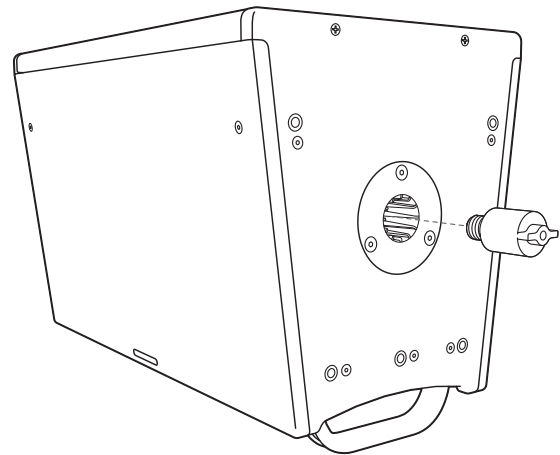

Figure 43: Converting ULTRA-X40/42 Cabinet to M8 size with Thread Reducer M20 to M8 (35 MM).
**NOTE:** Up to two ULTRA-X40 loudspeakers, oriented vertically, can be suspended with Meyer Sound eye bolts at a 5:1 safety factor. For this configuration, the top loudspeaker would have two eye bolts installed on its top and two eye bolts installed on its bottom (for connecting to the second loudspeaker), and the bottom of the upper loudspeaker requires the optional Thread Reducer M20 to M8 35MM accessory (PN 40.010.540.01, see Figure 43 on page 35).
The reducer is needed to convert the cabinet's bottom built-in pole mount M20 internal threads to M8 size to install the MUB-X40 (Figure 43). The Thread Reducer M20 to M8 35MM can be installed and removed without the need of tools, and it can be conveniently transported on the M8 stud located on one side of the MUB-X40. The thread reducer is also available separately (PN 40.010.540.01).